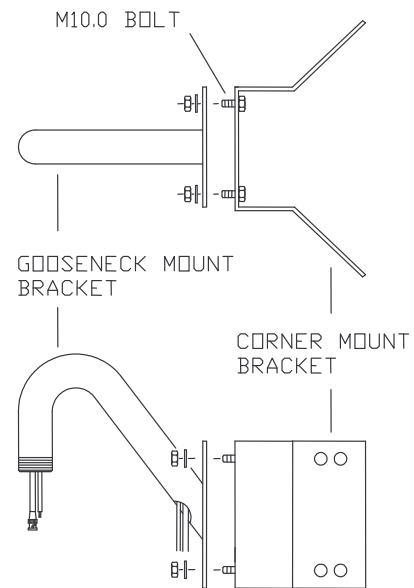

FIG.22
4. Fix the wanted bracket on the corner mount bracket with 4 ea of M10 BOLT before you install the corner mount bracket. (FIG.22)